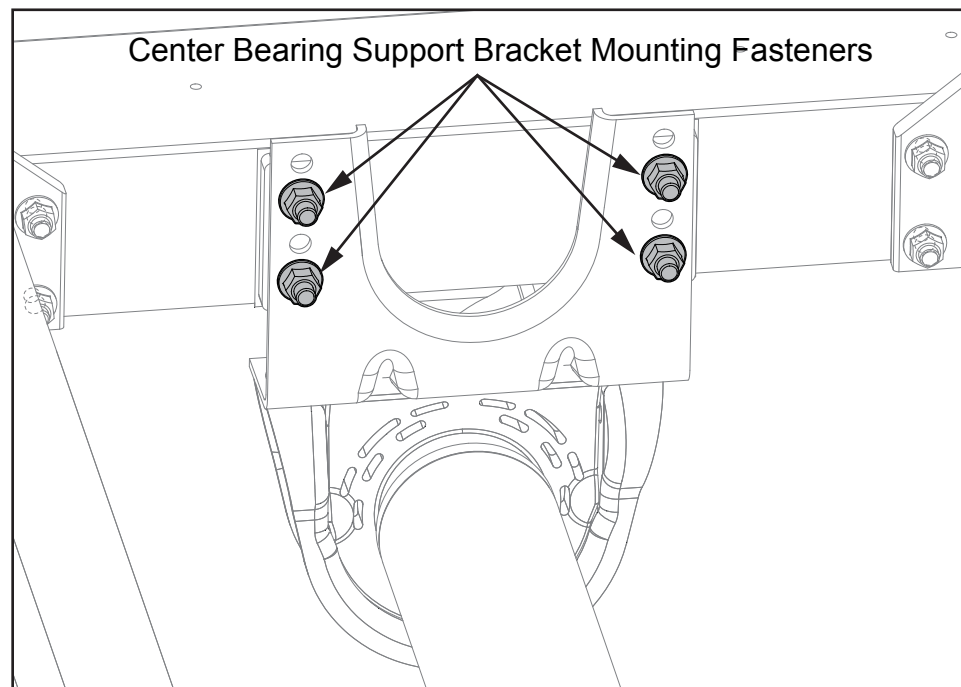

Figure 1, ACX vehicles with aluminum cross members
3. For ACX vehicles equipped with aluminum cross members. Locate the 4 center bearing support bracket mounting fasteners and tighten to 90 Lbs-ft of torque (see Figure 1).